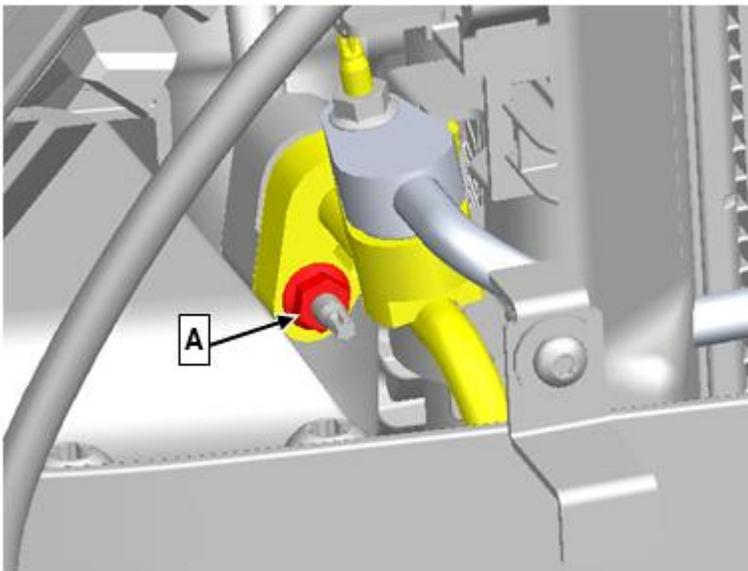

Figure 1
4. Loosen nut (**A, Figure 1**) on refrigerant line connection to right front pipe system and then tighten.